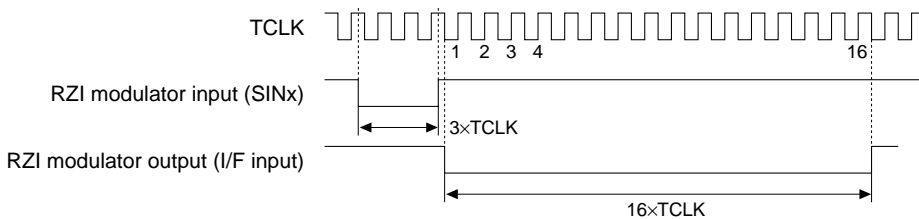

Figure III.9.17 Demodulation by RZI Circuit
- Although Figure III.9.17 shows the input signal as a low pulse of a $3 \times TCLK$ width, the RZI circuit recognizes low pulses by means of the signal edge (rising edge when $IRRLx = "0"$; falling edge when $IRRLx = "1"$). Note that noise may cause a malfunction.